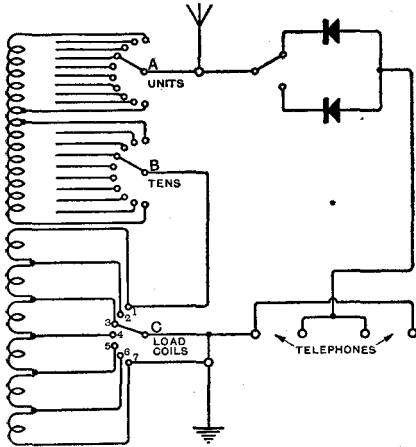

Fig. 3. The connections of the receiver.
**T**HE circuit of the receiver is given in Fig. 3. The aerial tuning inductance consists of a cylindrical coil tapped in tens and units, and a group of six basket coils. The coils are connected in series and are mounted
The wiring of the switch C can be followed from Fig. 3, but in order that there may be no ambiguity regarding the connections of the other two switches a table is given below.